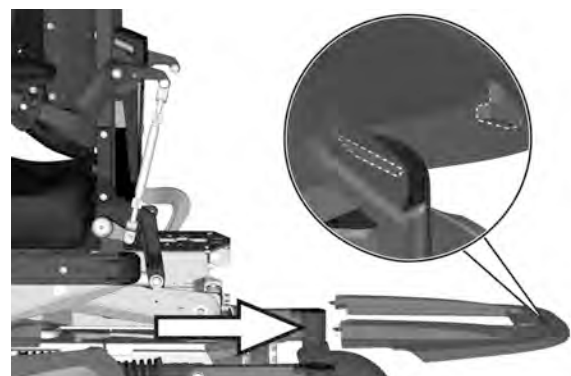

Figure 27. The chassis top cover.
4. Slide the top chassis covers off the chassis. See fig. 27.